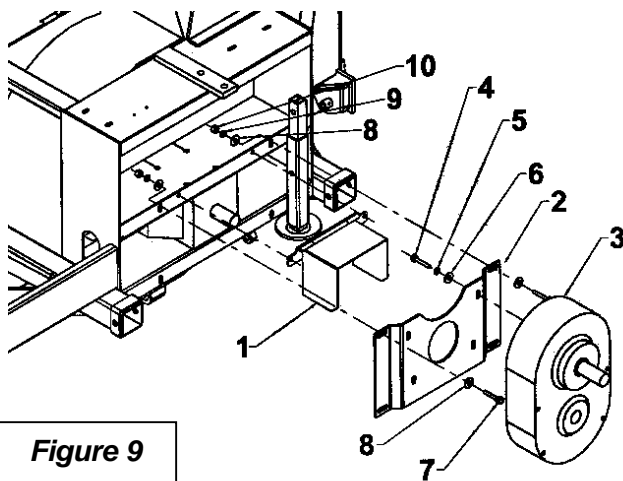

Figure 9
Installation of Reduction Box 8097 (Option) (Figure 9)
1. Adjust the chain's tension after ten (10) hours of operation. To do so, check the play between the reduction box input shaft (Fig.9, item 3) and the output shaft by turning the input shaft both ways without the output shaft turning. A play of 10° or 15° requires an adjustment: